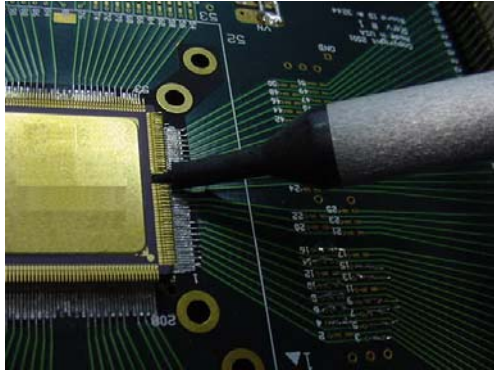

Figure 4 • CQ Package Soldered on PCB
4. **Top coating and cure.** Step three does not eliminate package lead breaking completely. During the vibration test, the braze area (the joint between the lead and the ceramic body) within the four corners contains the highest stress level. Cracking in the braze area can be minimized by applying a UV cure, which is the nonconductive type top coating material on the top of the package. The amount of coating material used is critical. It is best to dispense just enough material to cover the tip of the lead braze (Figure 4 on page 2).